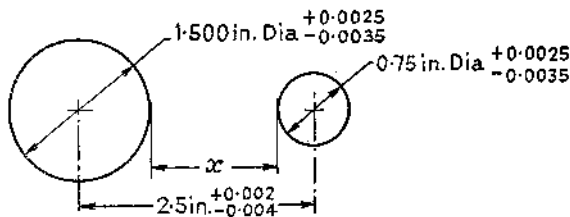

Fig. 7
(3) Find the greatest and least values of the dimension marked  $x$  in fig. 7.